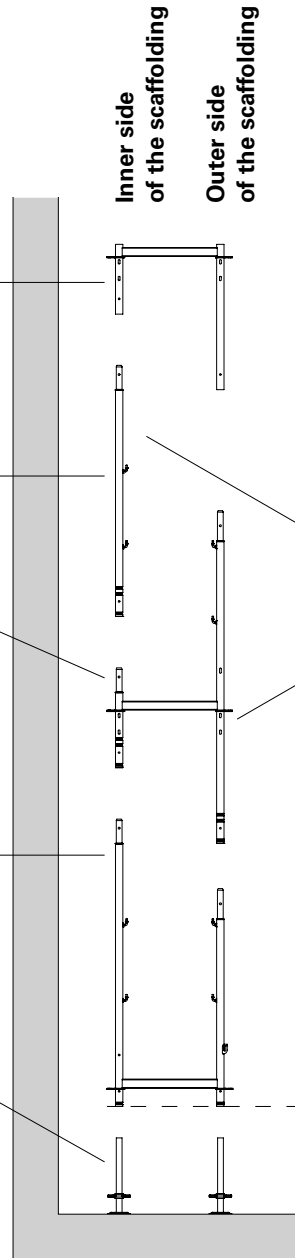

Fig. A1.01
- Base Spindle UJB 38-50/30 with red quick jack nut: max. 35 cm spindling length. (Fig. A1.01)